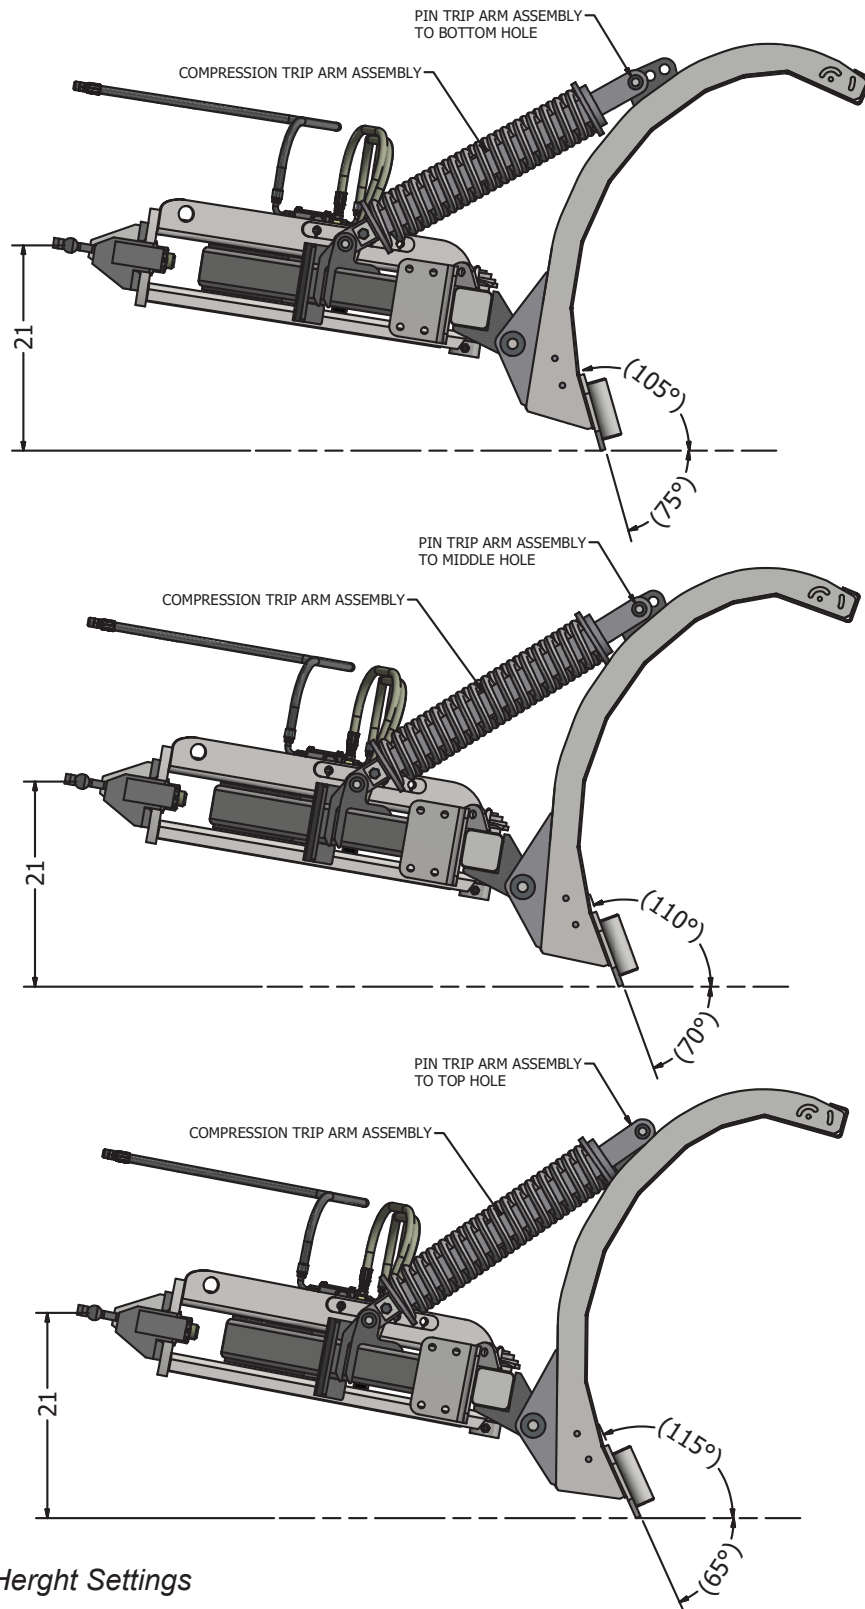

Figure 1: Drive Height Settings
During the initial installation of the plow to the vehicle, some adjustments will be necessary to insure proper operation of the plow and trip mechanisms. It is Viking-Cives recommendation that the plow is set to run at an approach angle from the road surface of approximately 105 degrees, as shown in figure 1.
1. Set plow unit on level surface with moldboard in the bulldoze position; adjust drive height to approximately 21" as shown in figure 1.